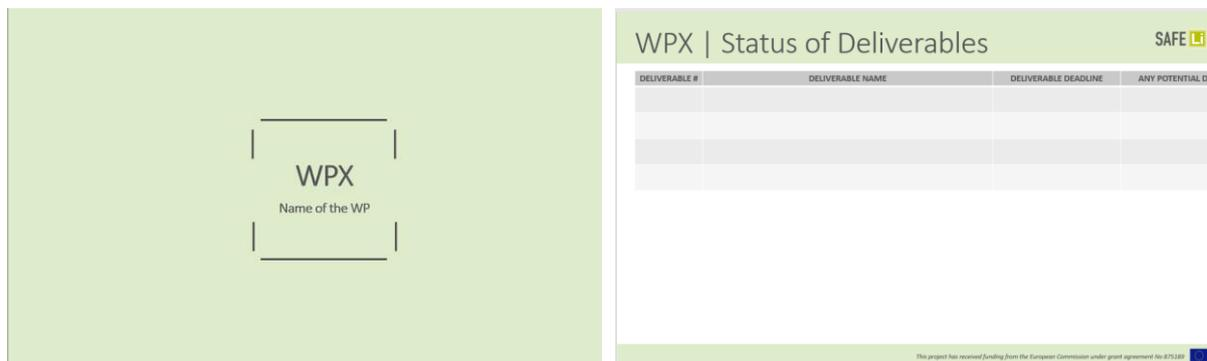

Figure 4 - SAFELiMOVE presentation template, example slides
- Template for GA/WPLB presentations; including Gantt chart, objectives of the WP, progress, risk identification, status of milestones and deliverables, publications and conferences, planned activities next 6 months (GA) (Figure 4).